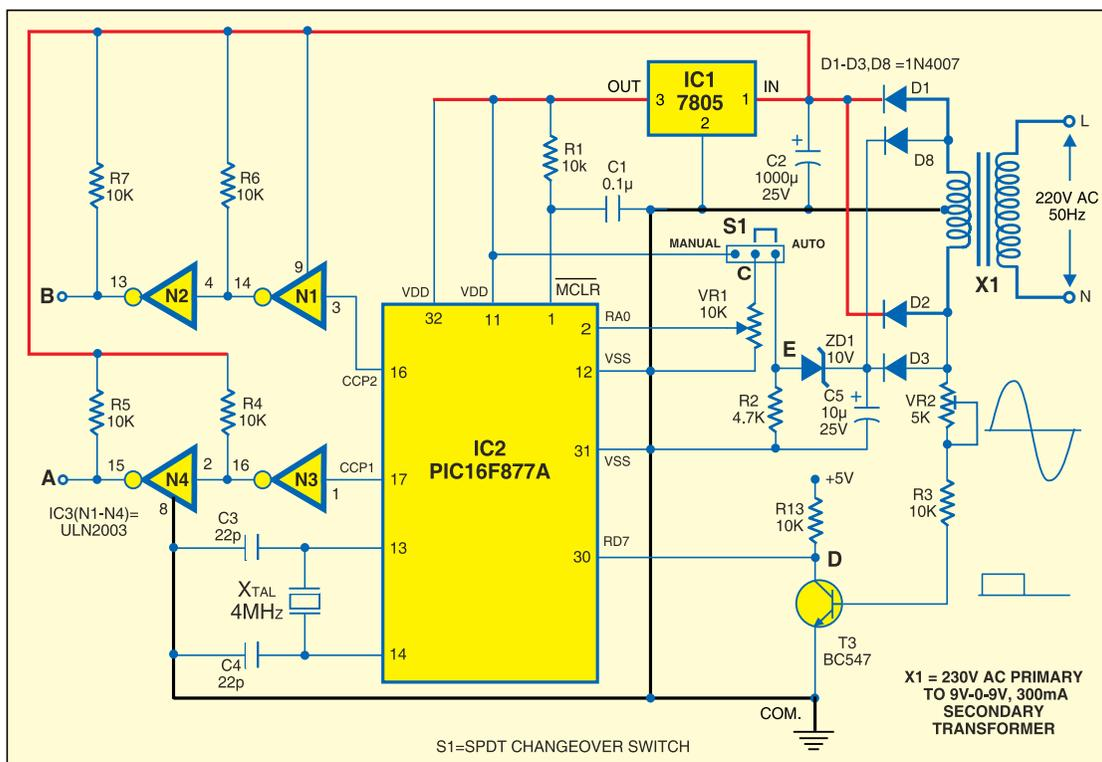
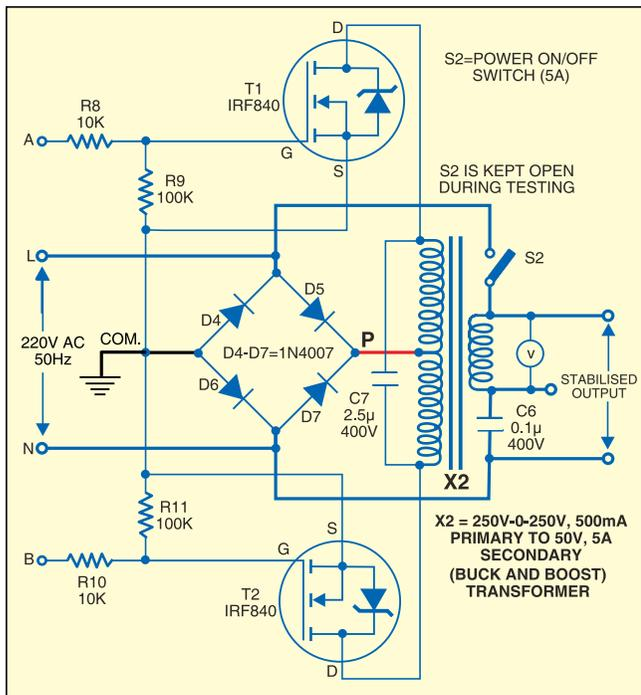
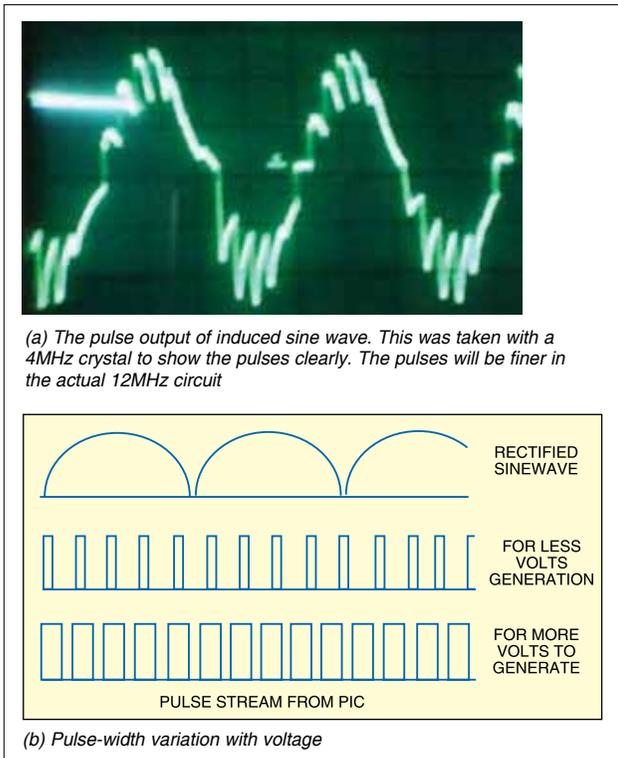

Fig. 1: Circuit of voltage stabiliser controller section
Fig. 2: Circuit of voltage stabiliser buck-boost section
Fig. 4: A typical PWM concept
Voltage stabiliser controller section. This part of the circuit is built around the PIC microcontroller (see Fig. 1). The 5V supply for the microcontroller is derived from a small iron-core mains step-down transformer having 9-0-9V, 300mA rating, two diodes (1N4007) and a 1000 μ F capacitor followed by the 7805 regulator.
The ADC input channel 0 at port-A pin 2 of IC2 is used as shown in Fig. 1. Here potentiometer VR1 is connected to +5V and ground through a jumper connection. For the purpose of testing, you can vary VR1 to adjust the voltage from 0 to 5V. The reset circuitry at pin 1 (MCLR) has capacitor C1 and resistor R1. Pin 30 (port-D bit 7) gets a signal (marked as 'D') derived
is connected to ground, pulses will be available from pin 16. Taking pin D to 5V reverses the above sequence. After checking this part of the circuit, the circuit shown in Fig. 2 may be tested.
In manual position of input-selection switch S1 (Fig. 1), the analogue input voltage from potmeter
is connected to ground, pulses will be available from pin 16. Taking pin D to 5V reverses the above sequence. After checking this part of the circuit, the circuit shown in Fig. 2 may be tested. In manual position of input-selection switch S1 (Fig. 1), the analogue input voltage from potmeter
(point C) of the PIC in auto position (Fig. 1).
A typical PWM concept is shown in Fig. 4. The microcontroller produces pulse-widths, as required, for generating the voltage to be added or subtracted from the mains. The pulses from points A and B (refer Fig. 1) are fed to the transformer shown in Fig. 2. The secondary winding of this transformer gives the adding voltage. In this case, there is no relay switching; the buck or boost is done smoothly by changing the phase of the adding signal instantly. So it is a continuous voltage stabiliser. Depending on how much the input varies from 220V, pulse width is generated so as to adjust the output voltage by adding or subtracting from it. This is a feed-forward control.
Points marked 'COM' common points in Figs 1 and 2 are not the ground and should not be connected to the neutral line.
Pulse-drive circuit and the transformer. Fig. 2 shows the circuit to buck/boost the mains voltage using a buck-and-boost transformer. The iron-core transformer used here is the same as used in voltage stabilisers. There is no tap on the secondary winding and the primary winding is centre-tapped.
1. First, test the controller circuit (Fig. 1) for pulse-width-modulated signals at points A and B. Check changeover from A to B by applying 0V and 5V at point D.
3. Vary the potmeter in manual position of the switch. Using a CRO, you can see variation in the pulse-width (see Fig. 4).
In Fig. 1, at point E, we have included a lag circuit comprising variable resistor VR2 (5-kilo-ohm) and capacitor C5 (10 μ F). Adjust preset VR2 until the waveform is a smooth sine wave.
The secondary voltage of transformer X2 should decrease and then increase as VR1 is raised from 0V position. Then check voltage regulation after changing over to auto position in Fig. 1. Adjust VR1 to the centre position precisely. In the centre position, there will be no pulse and therefore no adding voltage in the secondary winding. So the value of the zener diode used in the rectifier circuit should be changed in order to get 0V for 220V input. A variac is useful for varying the input voltage and checking the output.
5. Activate the buck-and-boost circuit by closing stabiliser switch S2 (Fig. 2).
Place the components on the PCB as per the circuits shown in Figs 1 and 2 and solder them. Give the mains AC power supply to the circuit through a variac and observe the stabilised output by varying the variac (auto transformer).